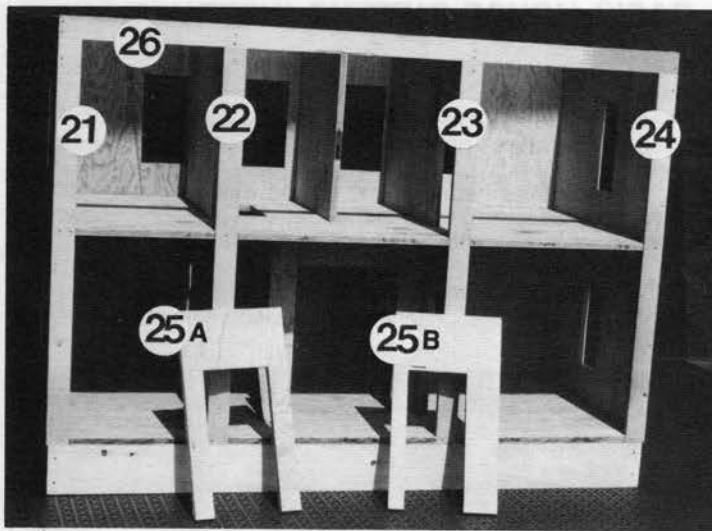

Fig. 11
STEP 10: Install horizontal top frame 26, making sure it is flush on top with all the second floor walls. Note optional parts 25A and 25B for the second floor bath front wall. Use 25B if you wish to use a working door to the bath. Wall 25B will later be installed so as to be removable at will. (FIGURE 11).